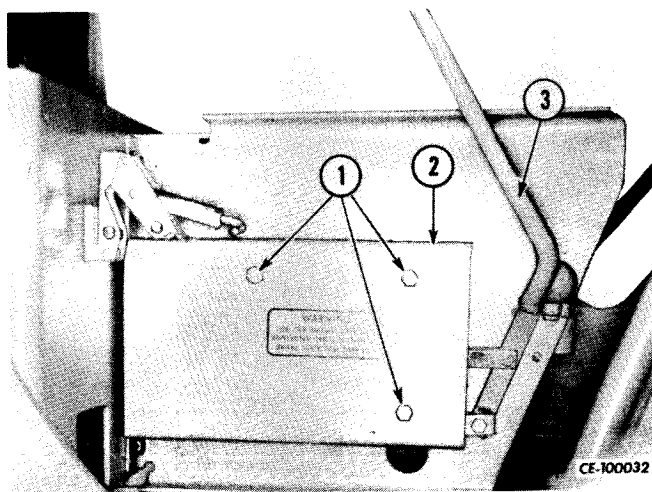

Figure 11-11
WINCH CONTROL VALVE - The winch control valve is located on the right side of the operator's seat under a protective panel (2, Fig. 11-11). The operator's seat must be removed in order to remove the mounting cap screws (1). Disconnect winch control lever (3) from control valve. Disconnect, plug and tag all hydraulic lines from the inside of the seat base. Remove cap screws, nuts (1), protective panel (2) and control valve.
cover (2, Fig. 11-11), and cap screws (1). Install nuts on cap screws (1) and tighten. Connect control lever (3) to control valve. From inside the seat base connect all hydraulic lines to control valve. Install operator's seat to base. Check and repair hydraulic fluid level in the reservoir.